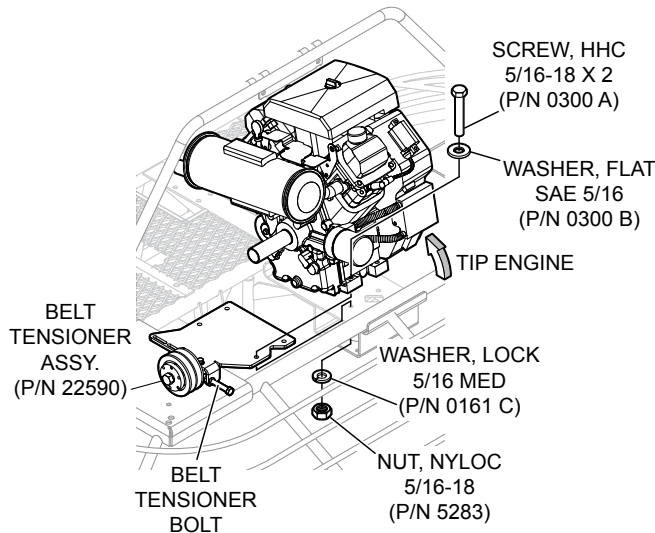

Figure 10. Belt Tensioner Installation
- Tip engine forward slightly to allow enough clearance for belt tensioner to slide between engine and frame. See Figure 10.
- Secure belt tensioner and engine with new screws (P/N 0300 A), flat washers (P/N 0300 B), lock washers (P/N 0161 C), and nuts (P/N 5283) in 4 places. Leave hardware loose until belt alignment. See Figure 10.
- Tighten engine mounting bolts (Figure 10).